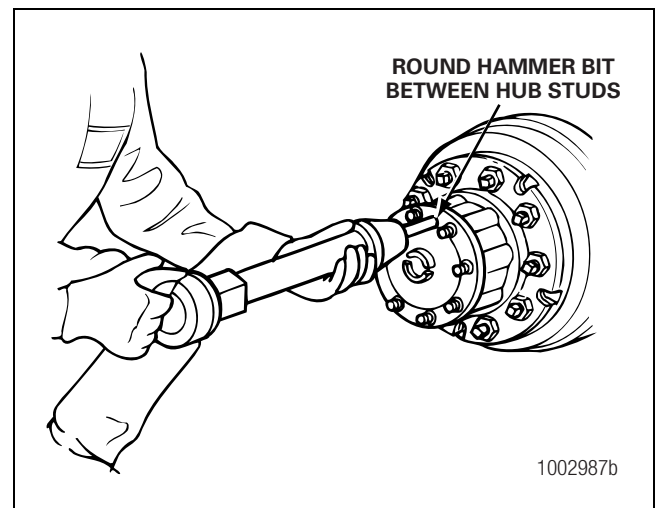

Figure 3.5
2. Place the round hammer bit against the axle shaft or flange between the hub studs. Operate the air hammer at alternate locations between the studs to loosen the tapered dowels and axle shaft from the hub. Figure 3.5.